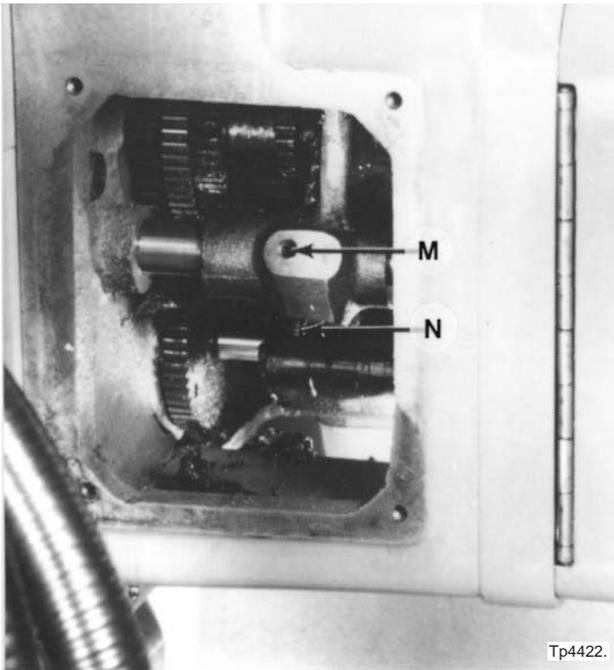

Figure 3.16 - Gear Box Shifter Fork
30. Remove lock screw "M, Figure 3.16.
43. Replace lock screw "M", Figure 3.16.